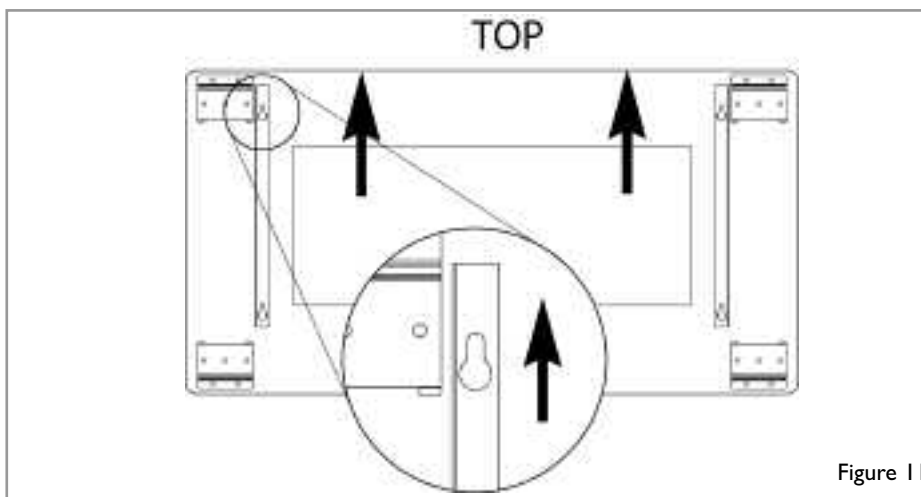

Figure 11
1. Remove the glass panel from all packaging and lay face down on a soft surface. Identify the top and bottom of the glass fascia by observing the orientation of the keyhole shaped slots in the fascia fixing brackets as shown in figure 11.